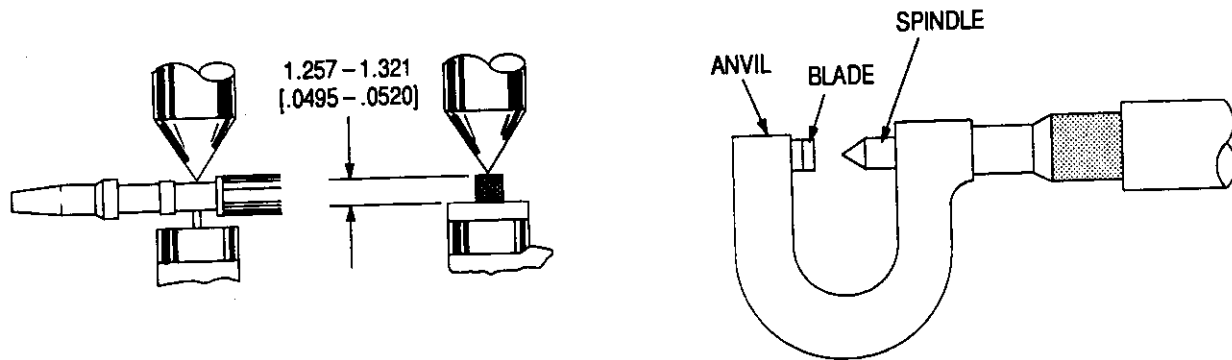

Figure 9
This inspection requires the use of a micrometer with a modified anvil as shown in Figure 9. AMP recommends use of the modified micrometer (Crimp
3. Using a crimp height comparator, measure wire barrel crimp height as shown in Figure 9. If the crimp height conforms to that shown in the chart, the tool is considered dimensionally correct. If not, return the tool to AMP for evaluation and repair (refer to Section 5, REPLACEMENT AND REPAIR).